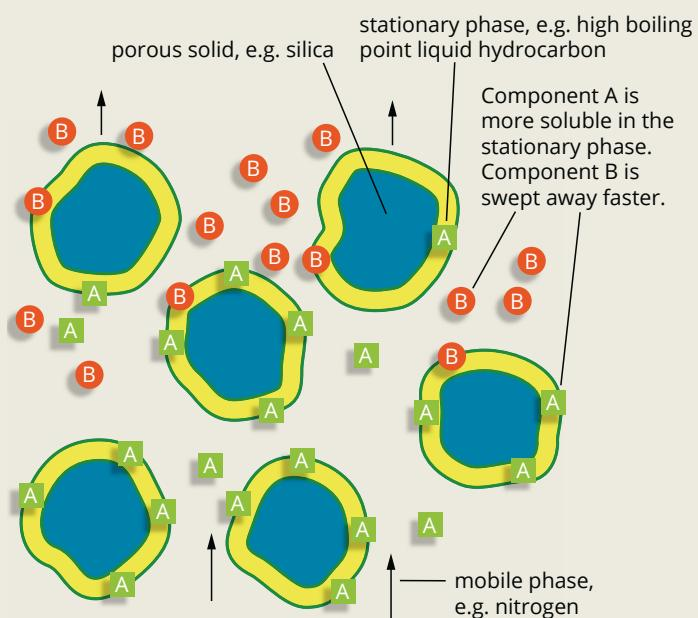

FIGURE 13.2.10 A cross-section through a GLC column.
- The components of the sample repeatedly adsorb onto and desorb from the stationary phase. The least soluble components are swept out first by the gas into the detector (see Figure 13.2.10).